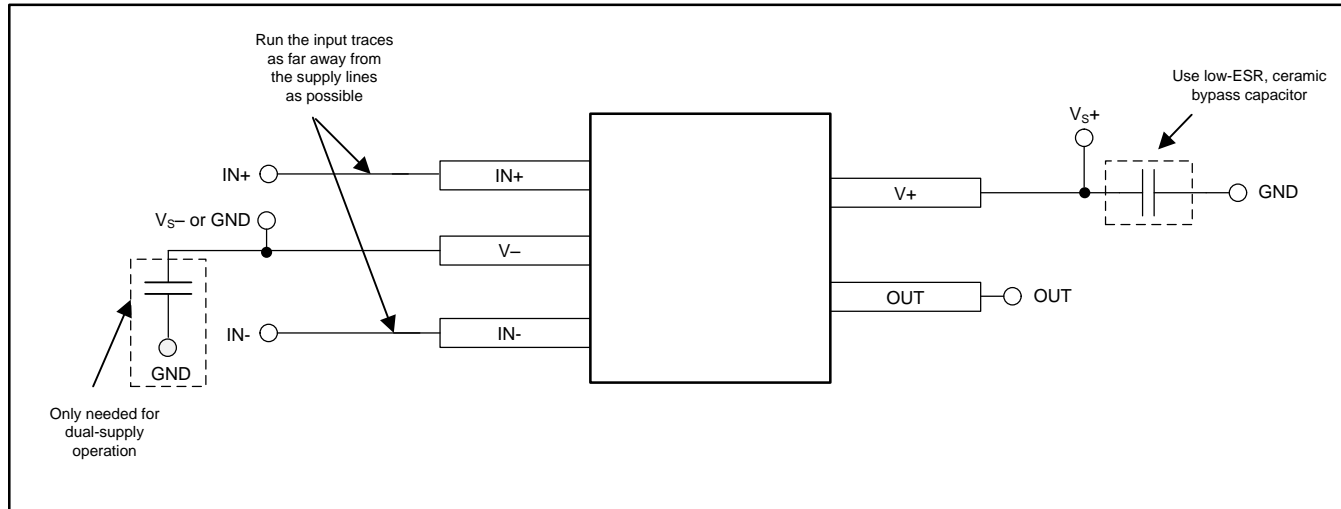

Figure 22. Comparator Board Layout
- To minimize supply noise, place a decoupling capacitor (0.1- μ F ceramic, surface-mount capacitor) as close as possible to V_S as shown in Figure 22.